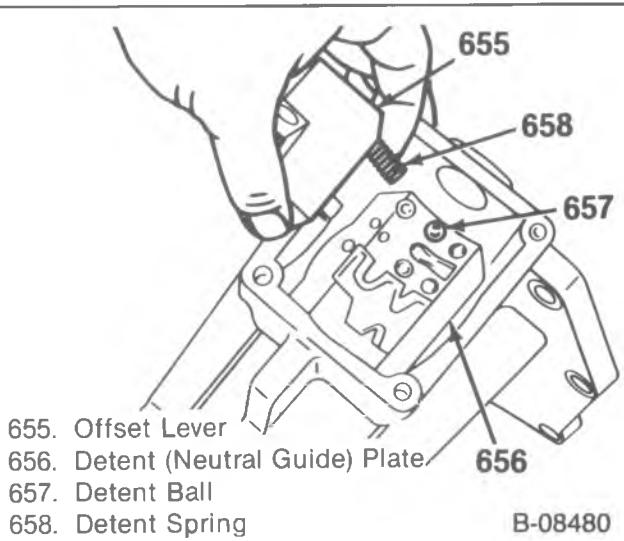
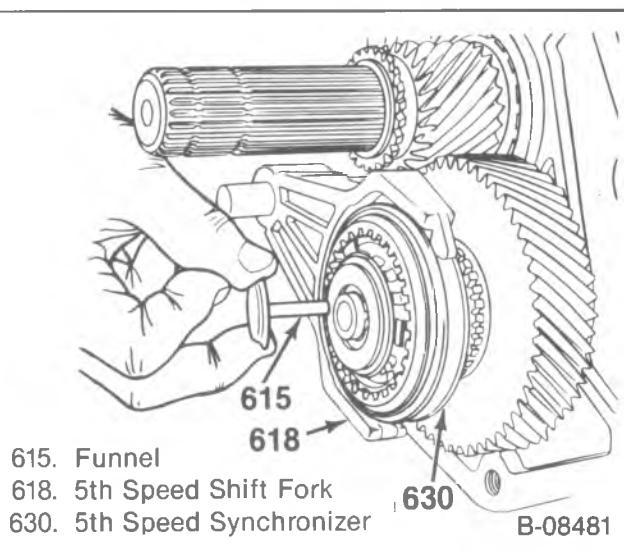

Figure 113—Detent Ball and the Spring
Figure 114—Plastic Funnel
4. Detent ball and the spring from the offset lever, (figure 113).
5. Countergear rear thrust bearing (612).
- Plastic funnel, (5 speed only), (figure 114).
6. Shift cover (601).